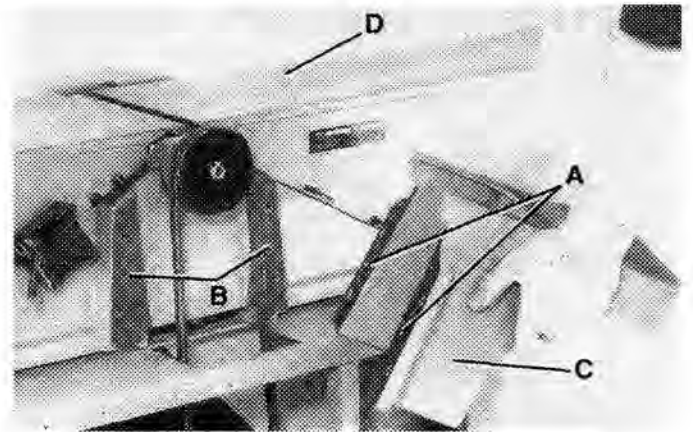

FIGURE 7
1. Align two pins (A) Fig. 7, in mounting bracket (C) with two holes (B) at the rear of jointer (D).